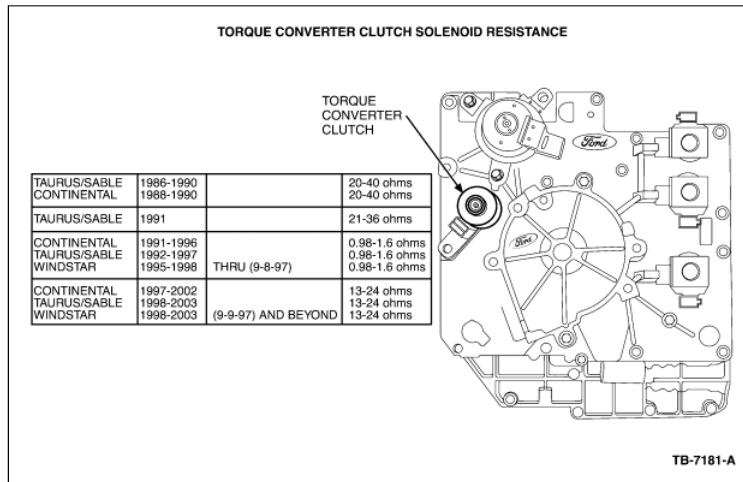

Figure 1 - Article 03-12-3
1. For DTC P0741 and P1744, perform Pinpoint test "C" in Section 307-01 of the appropriate Taurus/Sable, Windstar or Continental Workshop Manual and refer to TCC Solenoid Resistance Chart (Figure 1) for correct TCC resistance.